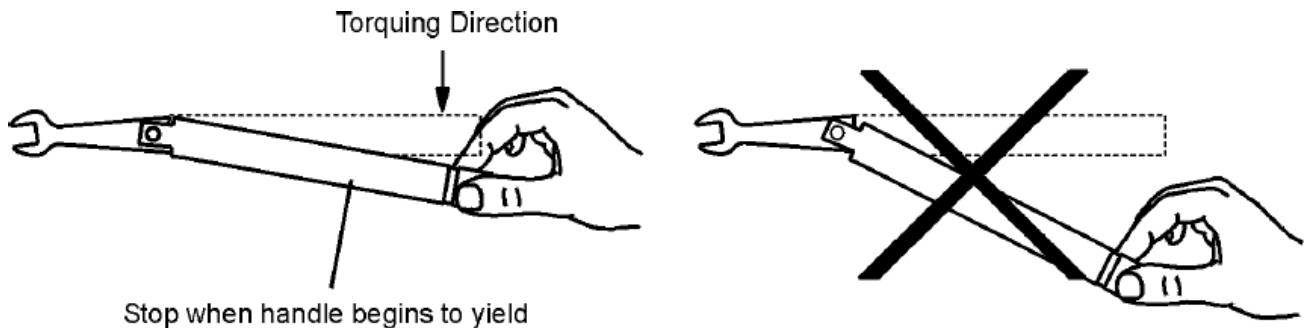

Figure 3-5 Using the torque wrench
- 2 Hold the torque wrench lightly, at the end of the handle only (beyond the groove), as shown in Figure 3-5.
- 4 Tighten the connection just to the torque wrench “break” point. The wrench handle gives way at its internal pivot point. Do not tighten the connection further. See Figure 3-5.